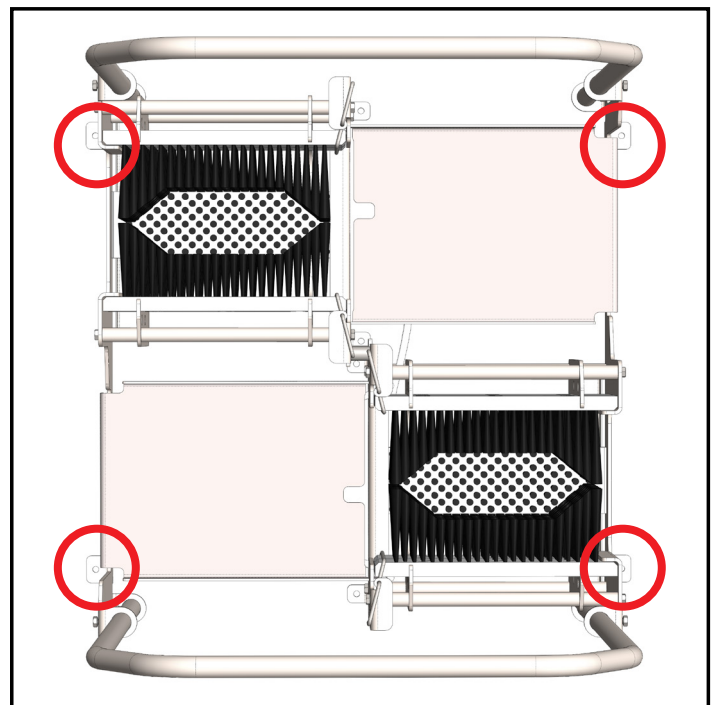

Fig. 3.2: Mounting bracket locations
4. Using the 4 mounting brackets located at each corner, securely fasten the unit to the floor with appropriate hardware for the given material (i.e. concrete anchors and bolts) as shown in [Figure 3.2]